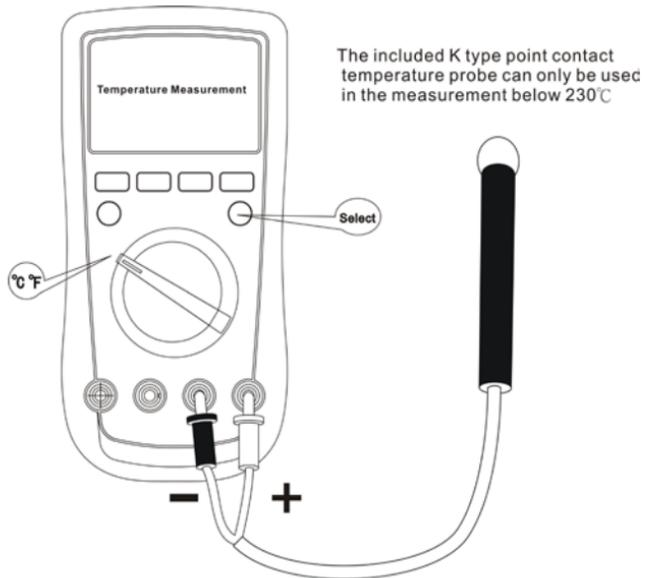

Figure 12
I. Temperature Measurement (UT109only)(See figure 12)
2. Insert the temperature probe into the input terminal as shown on the figure 12.